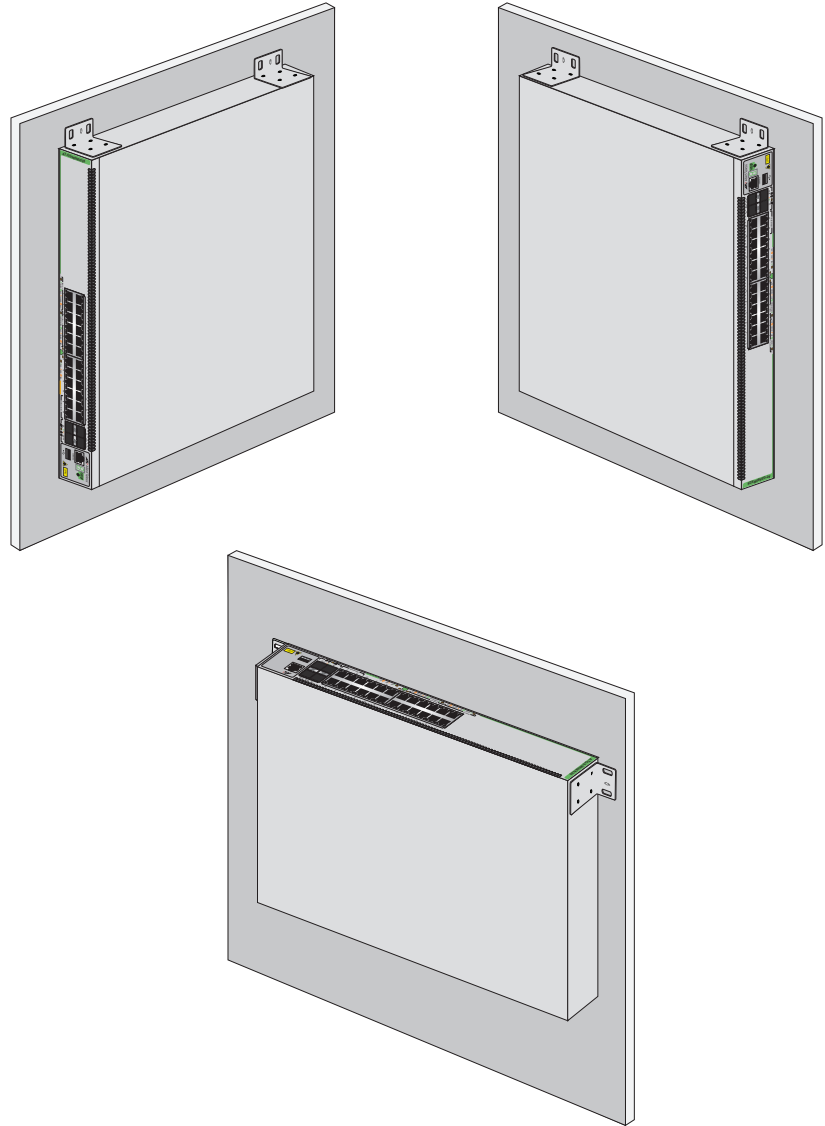

Figure 54. Positioning the GS980MX/28 or GS980MX/28PSm Switch on the Wall
Install the GS980MX/28 or GS980MX/28PSm switch on a wall with the front panel facing up, left or right, as shown in Figure 54. Do not install the switch with the front panel facing down.
- Position it so that the front panel is facing up, left or right. Refer to Figure 54. Do not install it with the front panel facing down.